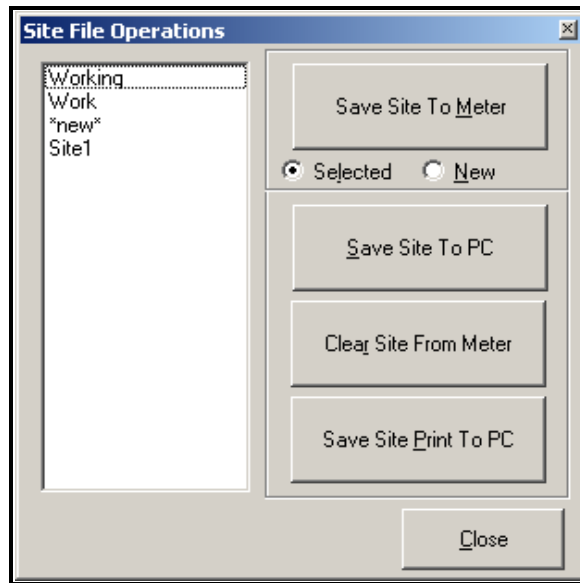

Figure C-14: The Site File Operations Window
To access site files, click on the Site Files button in the *Properties* window. The *Site File Operations* window (shown in Figure C-14 below) opens.
1. Highlight the desired site in the left pane. (See Figure C-14 on page C-12.)
1. Highlight the site in the left pane. (See Figure C-14 on page C-12.)